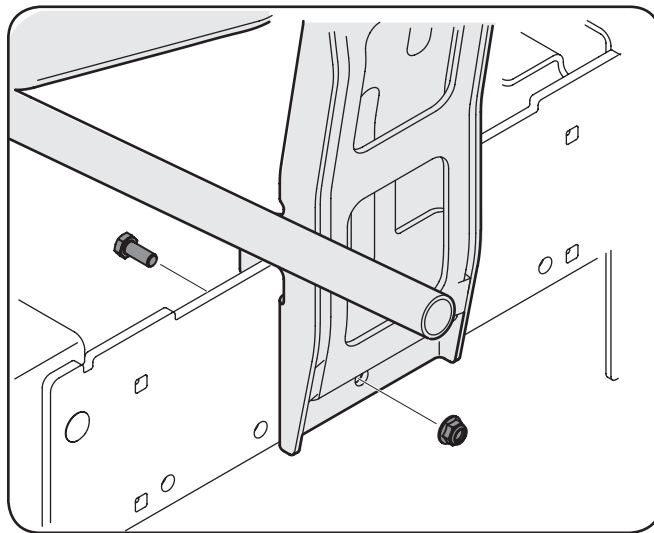

Figure 4-7
4. Secure the hanger assembly to the mounting assembly using a 5/16" bolt and flange nut packed in with this upright bagger support. See Fig. 4-7.